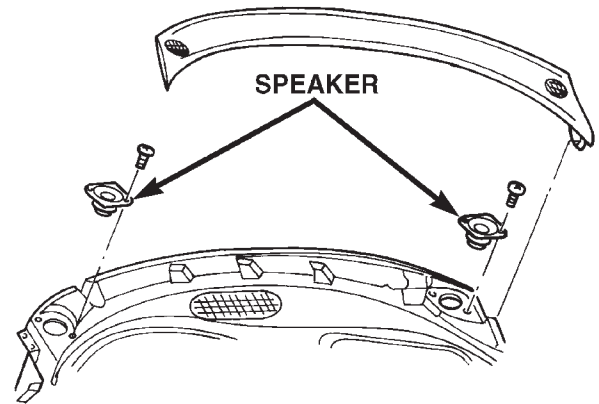

Fig. 5 Instrument Panel Speakers
- (2) To remove right or left speaker remove two retaining screws. Lift up speaker and disconnect wire connector (Fig. 5).